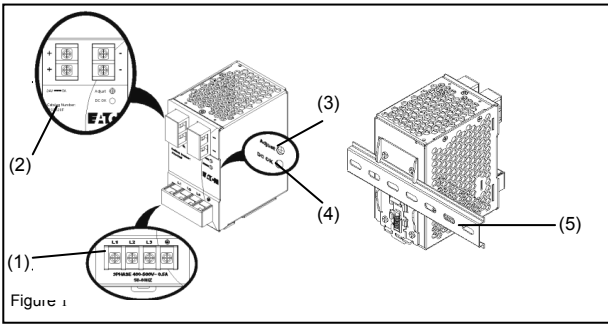
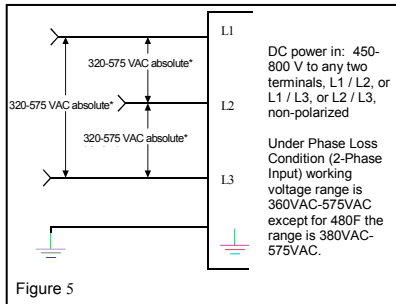

Figure 1
Figure 5
### 2. Device description (Fig. 1)
#### 5.1. Input connection (Fig. 1 and Fig. 5)
Use L1, L2, L3 and PE connections of input terminal connector (see Fig. 5) to establish the 3 x 400-500 VAC connection.
#### 5.2. Output connection (Fig. 1 (2))
Use the "+" and "-" screw connections to establish the 24 VDC connection. The output provides 24 VDC. The output voltage can be adjusted from 22 to 28 VDC on the potentiometer. The green LED DC OK displays correct function of the output (Fig. 1 (4)).